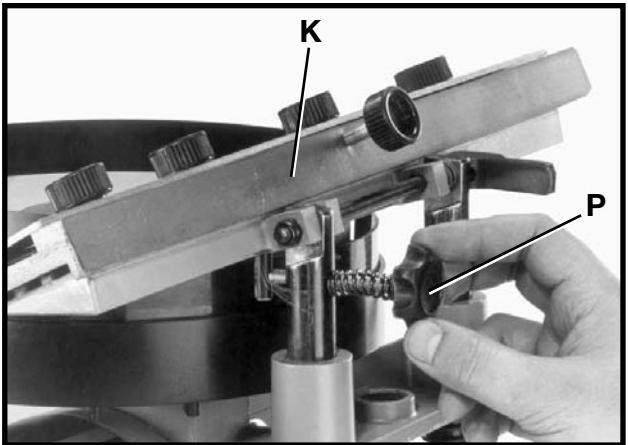

Fig. 45
- To tilt the sliding tool rest (K) Fig. 45, to conform with the angle of the knife to be sharpened, turn the tool rest tilting knob (P).